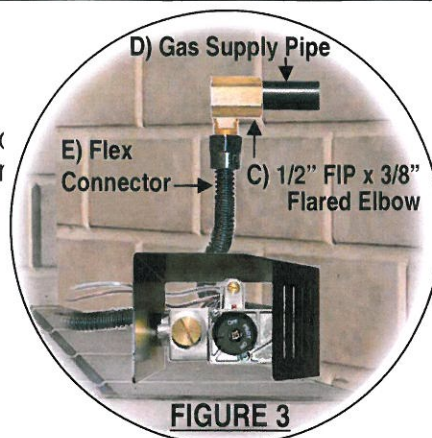

FIGURE 3
2. The **"EASY" Safety Valve** or **"Millivolt"** should be placed as far forward and to the side of the burner pan as possible (Figure 4B). It may also be placed opposite side down (Figure 3, right)
2. Thread **1/2" FIP x 3/8" Flared Elbow** (Figures 3 and 4C) onto the **Gas Supply Pipe** (B) and wrench tighten.
3. Thread one end of the supplied **Flex Connector** (Figures 3 and 4E) to the **Valve Input** (Figure 5), then connect the other end to the **1/2" FIP x 3/8" Flared Elbow** attached to the Gas Supply Pipe. If Flex Connector is bent into too small a radius it may kink or break causing air flow noise and/or gas leaks.